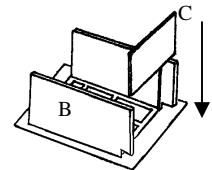
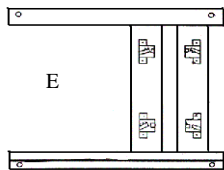
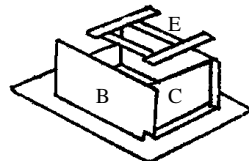

Figure 5
Figure 6
Figure 7
- Install the Bottom (C): gently spread side panels (B) and insert bottom (C) into the grooves of side panel (B) until it touches the face frame (Figure 5).
- Place Toe Kick (D) onto the side panels at the front base of the vanity. Align the cam locks and lock them
- Install the Back Panel: before you start this step, put the back panel (E) on a flat surface face up. Install the drawer rail holders (M) in the pre-spotted area on the back panel (Figure 6). The opening of the holders should be facing towards each other. Secure them with ½" round head screws (M). Align the back panel and make sure the bottom panel fits the groove of the back panel (Figure 7). Gently spread side panels (B) and make sure each of the cam screw on the back panel well fits the can lock on the side panels. Then lock them.